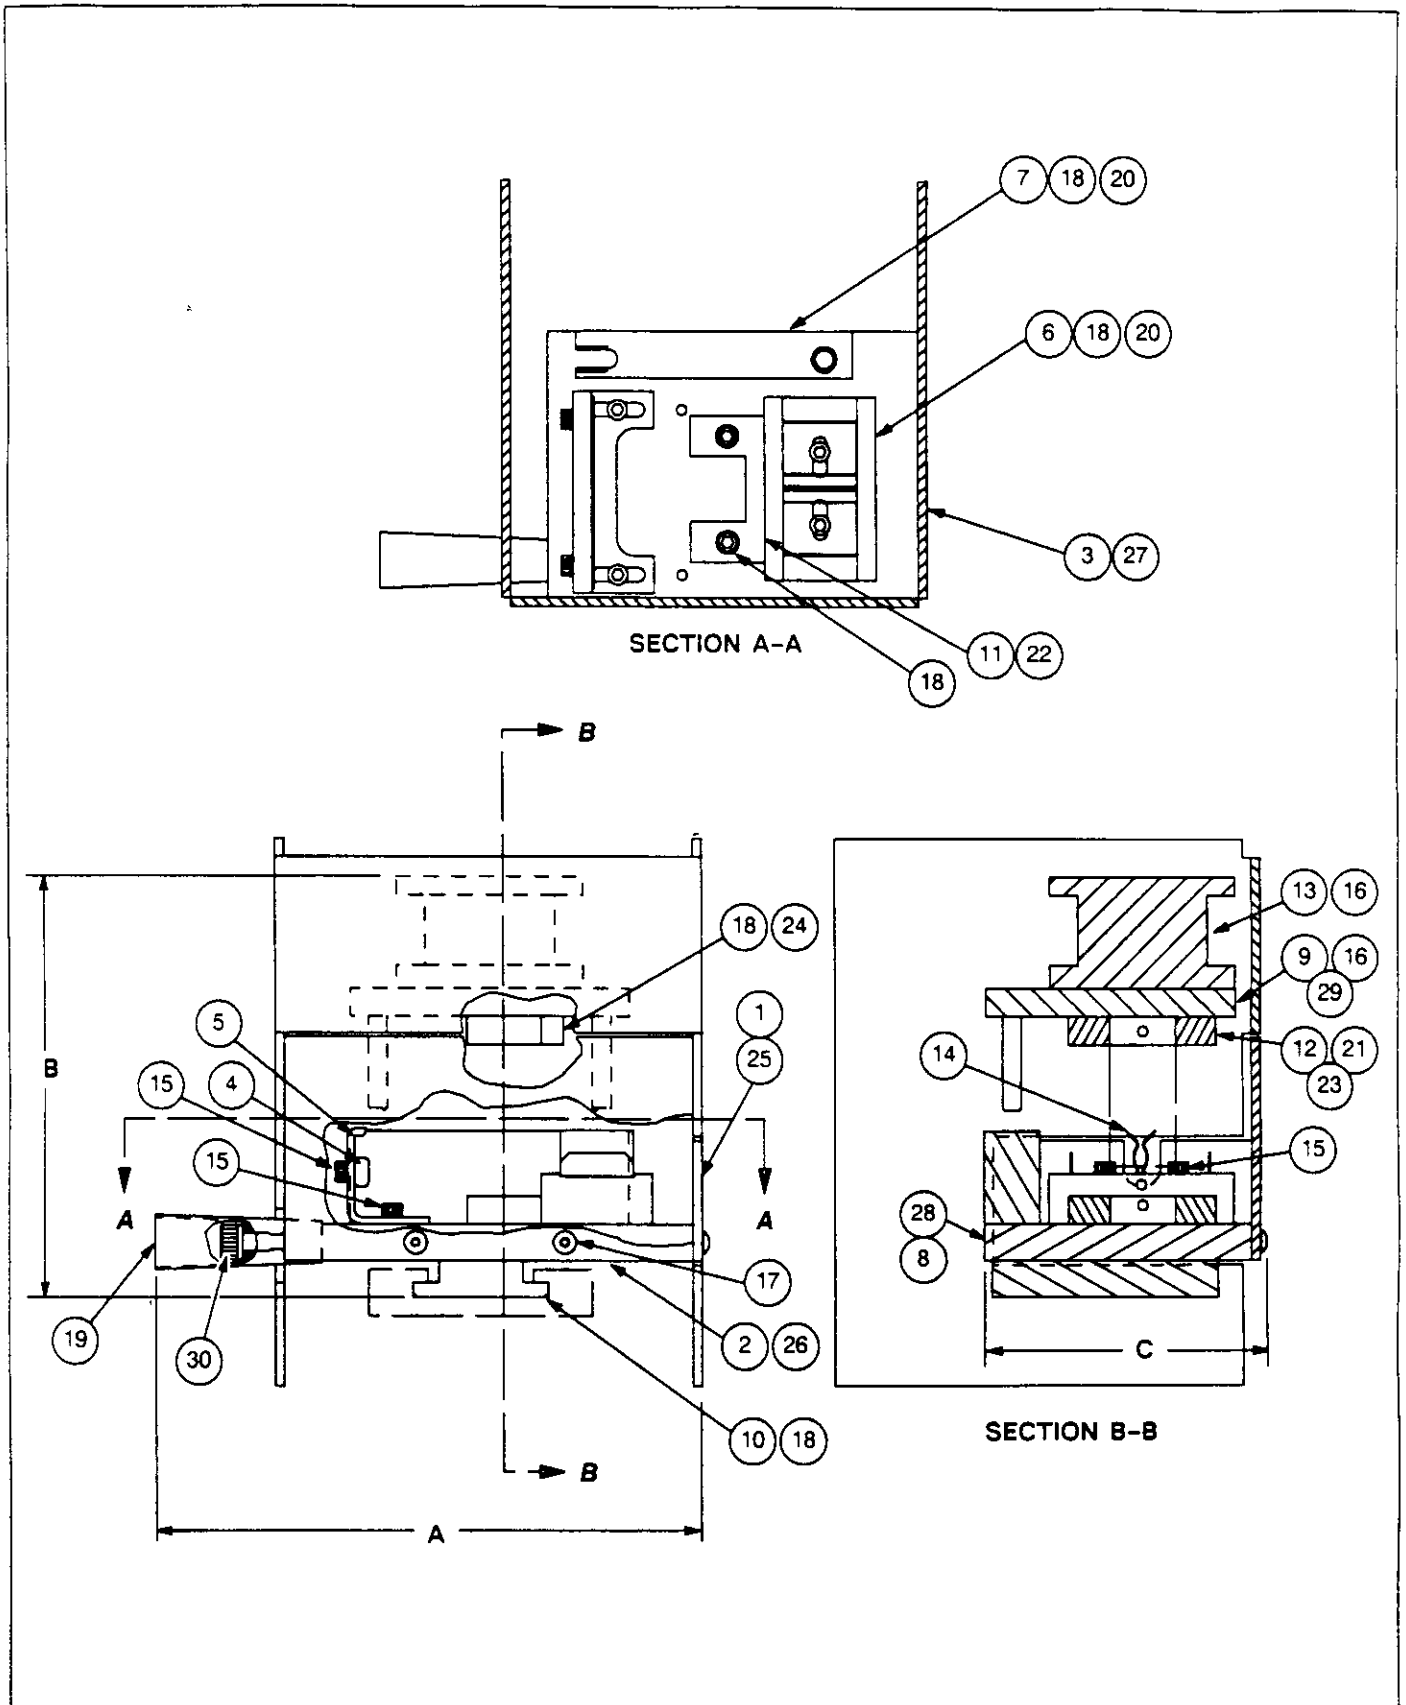

Fig. 5 (continued)
2. Make sure all die holding screws and assembly components are in place. If replacements are necessary, refer to Figure 5.
8. REPLACEMENT AND REPAIR (Figure 5)
AMP recommends that certain replaceable parts be stocked to prevent loss of production time. The parts listed in Figure 5 can be replaced by qualified personnel at your production or tool repair facility. Parts can be ordered by contacting: